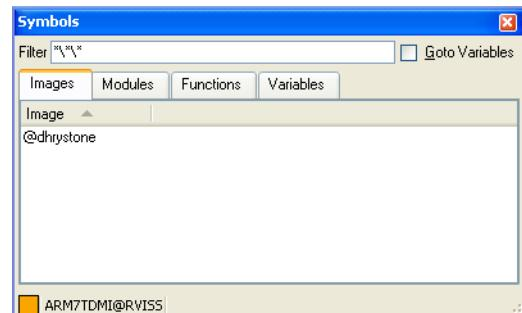

Figure 10-2 Symbols view
- Select **Symbols** from the **View** menu to display the Symbols view. Figure 10-2 shows an example: